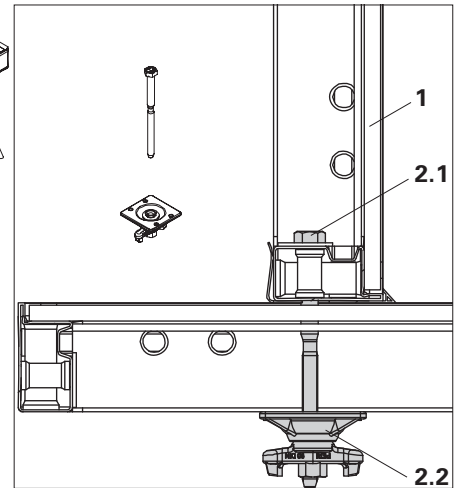

Fig. A3.01a
3. Insert Column Tie Bolt (2.1) through the panel and tighten on the outside using the Wingnut Pivot Plate (2.2). (Fig. A3.01a)